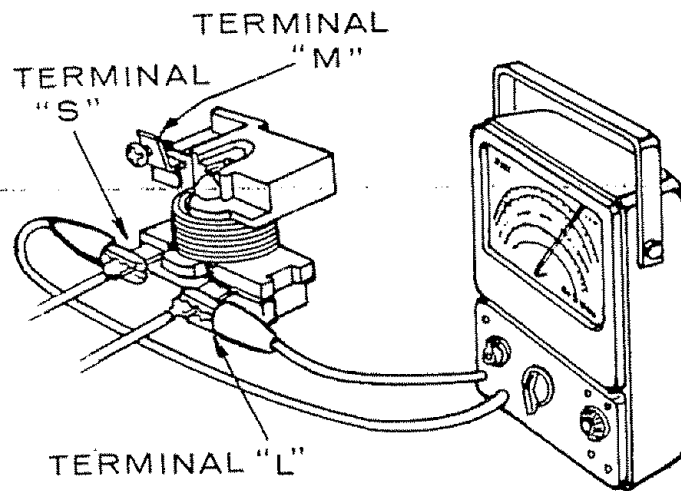

FIGURE 35
3. Set your voltmeter to the 250V, AC scale and connect the leads to terminals "S" and "L" of the starting relay (Figure 35). Apply power to the machine. If the motor hums and voltage is indicated on the meter, the relay contacts are not closing and the relay must be replaced. If the motor does not hum, disconnect the power and make a continuity check of the relay coil (terminals L to M) before checking the leads and timer.